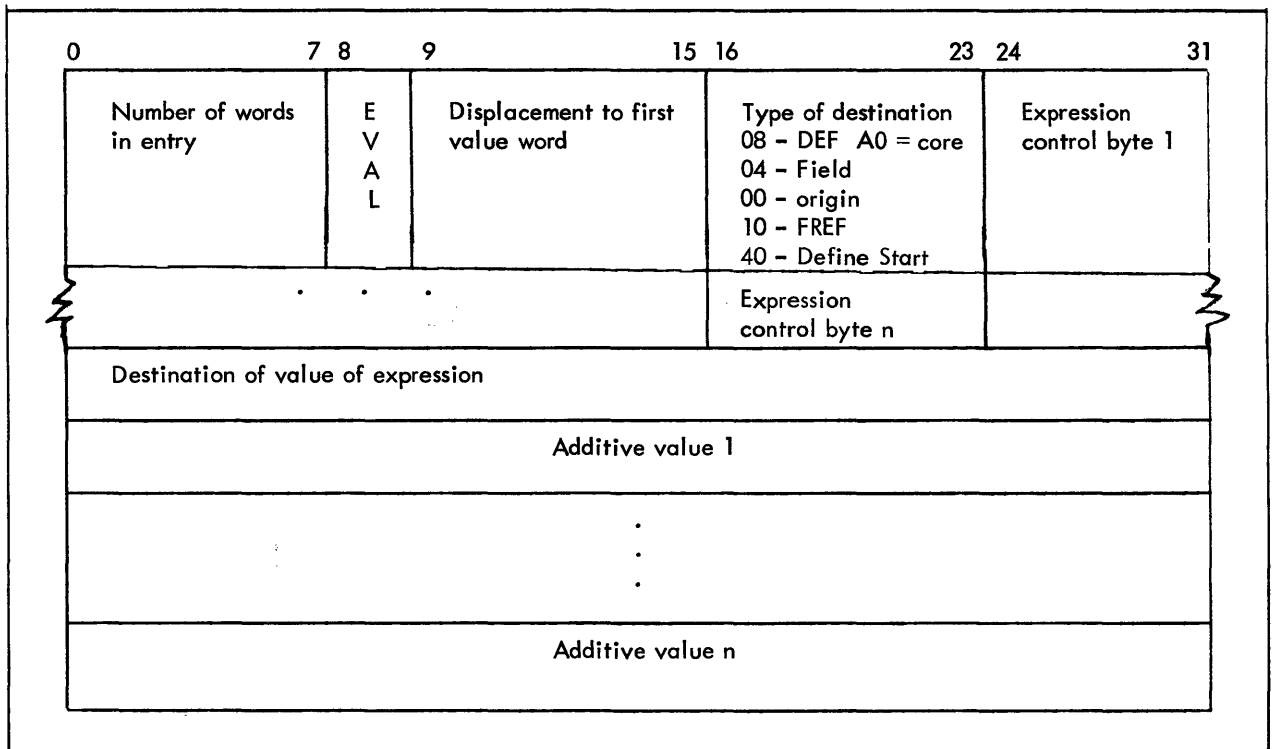

Figure 2-13. Expression Stack
4. Expression Stack. See Figure 2-13.